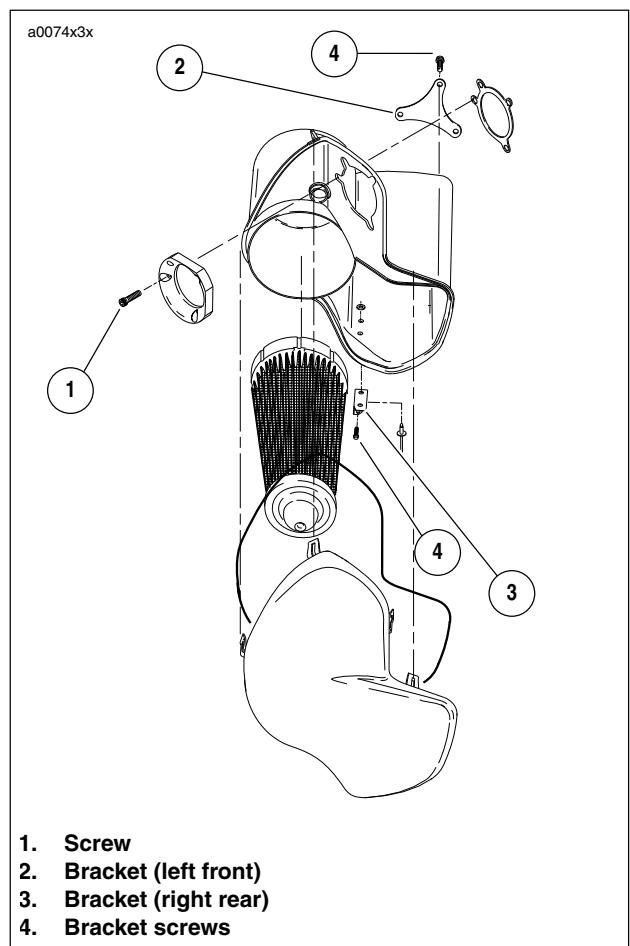

Figure 3-37. Air Cleaner Assembly
26. See Figure 3-37. Install and tighten screws on both air cleaner brackets.